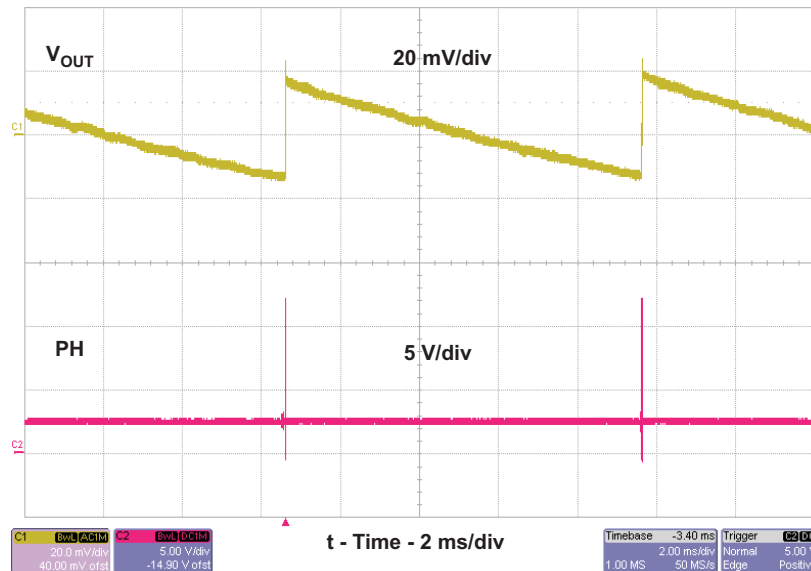

Figure 10. TPS54332EVM-416 Eco-mode™ Operation
Figure 10 shows Eco-mode operation, channel 1(C1) shows the output voltage while channel 2(C2) shows the switching node (PH).